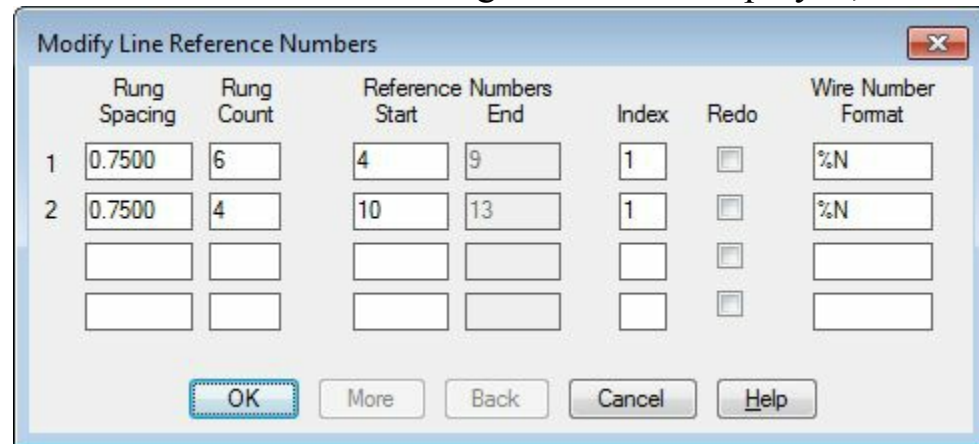

Figure-57. Modify Line Reference Number dialog box
- Click on the **Revise Ladder** tool from the **Ladder Editing** drop-down. The **Modify Line Reference Numbers** dialog box will be displayed; refer to Figure-57.